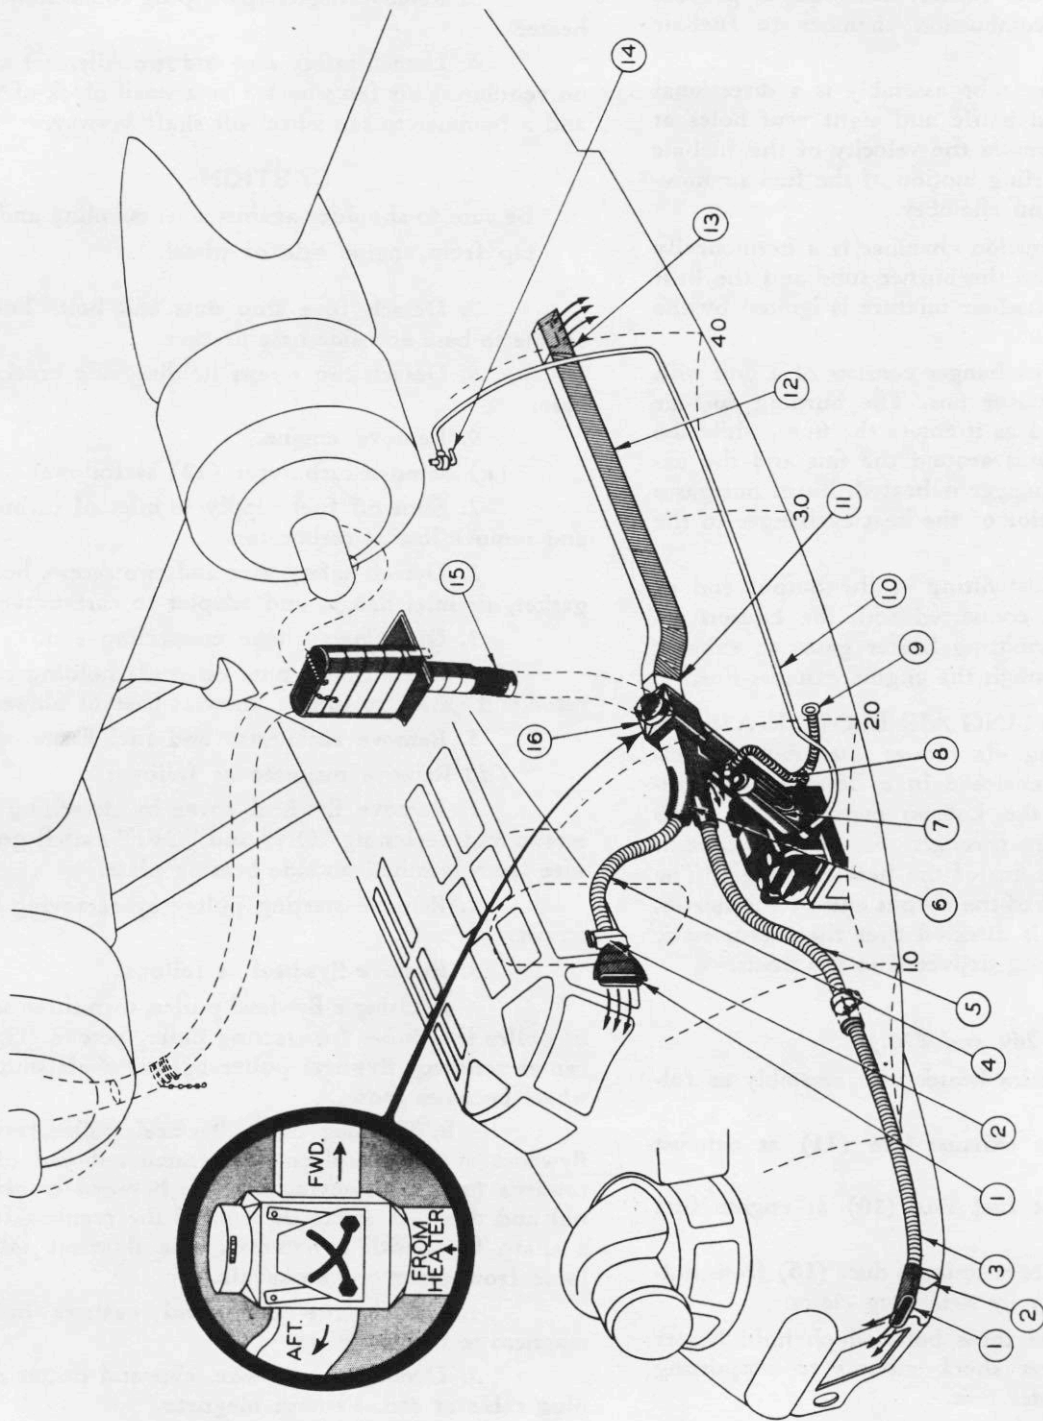

Figure 269—Central Heater System (PB-5 Only)
2. The Tillotson carburetor (12) which provides fuel-air mixture for both engine and heater combustion. A choker button is located between the ventilating blower housing, and the fuel-air blower (9).
4. The fuel-air blower (9) which is coupled directly to the drive shaft of the engine. Two impellers, mounted on parallel shafts, rotate in opposite directions to impel air into the air opening and force the fuel-air mixture from carburetor to engine and to heater combustion chamber.
5. A manually operated throttle valve (7) which is located in the horizontal fuel-air tube at the top exterior of the fuel-air blower. This valve regulates the volume of fuel-air which enters the engine and, therefore, the engine speed, the speed of both blowers, and the output of heated air.
6. A by-pass tube (10) which extends from top to bottom of the exterior of the fuel blower body casting. A contained spring loaded, piston type automatic pressure valve opens where the pressure at the outlet side (top) of the fuel-air blower becomes greater than the pressure necessary for the most efficient operation of the heater, and allows the fuel-air mixture to flow through the by-pass tube to the inlet side (bottom) of the fuel-air blower, thereby reducing the fuel-air pressure to the desired range.
7. The fuel line which takes off from the port selector valve (14) on the main fuel line in the superstructure, comes down the forward face of bulkhead 4 and then moves forward to the inlet fitting on the heater unit. (See figure 269.)
8. Exhaust tubing which passes exhaust gases from the engine through a fitting and to a juncture with heater exhaust fitting at the output end of the heater. From here an exhaust line (8) carries the exhaust gases to the atmosphere through a fitting in the skin just aft of bulkhead 2.
(See figures 269 and 270.)